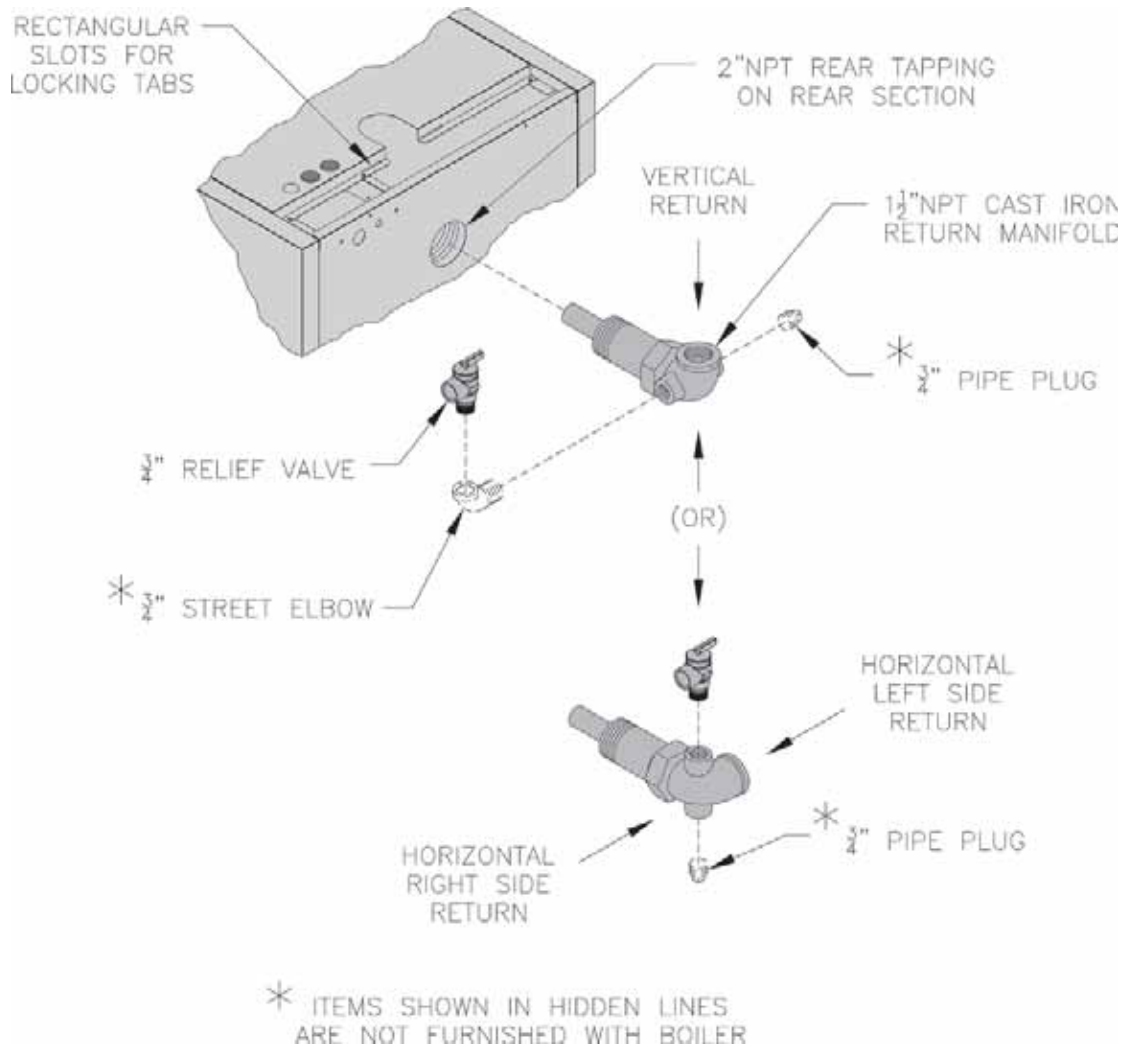

Figure 9: Return Manifold and Relief Valve Assembly Details
4. Install return manifold and relief valve, refer to Figure 9.
Note: Based on system return piping and access to service boiler, see Figure 1 and Figures 18A and 18B, predetermine if manifold orientation is to be positioned for vertical, horizontal left or horizontal right side return piping as shown in Figure 9.
- 1-1/2" NPT vertical return piping - Install 3/4" NPT x 90° street ell (not furnished) into either the left or right side tapping on return manifold. Install relief valve vertically into street ell. Install 3/4" pipe plug (not furnished) in tapping on opposite side (see Figure 9).
- 1-1/2" NPT horizontal left or right side return piping - Install relief valve vertically in 3/4" NPT tapping located on top of return manifold. Install 3/4" pipe plug (not furnished) in bottom tapping as shown (see Figure 9).